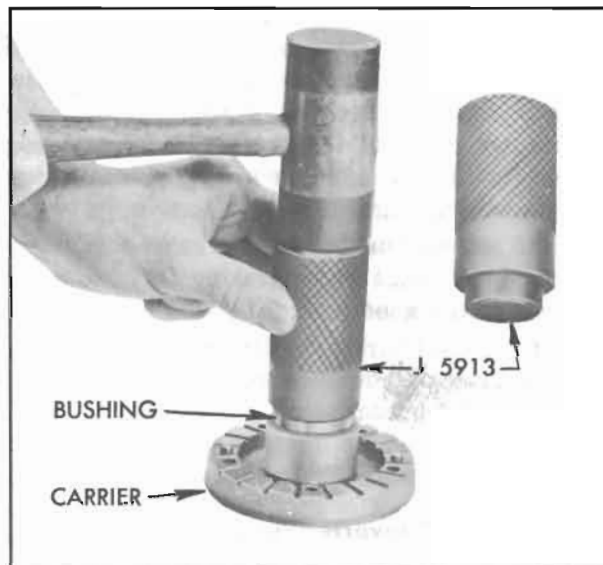

Figure 5-48—Installing Bushing in Blade Carrier
7. Inspect piston oil seal ring and bore of blade carrier for scoring or wear. If bushings in carrier are worn they should be replaced, using Installer J 5913 to properly locate new bushings. See Figure 5-48.